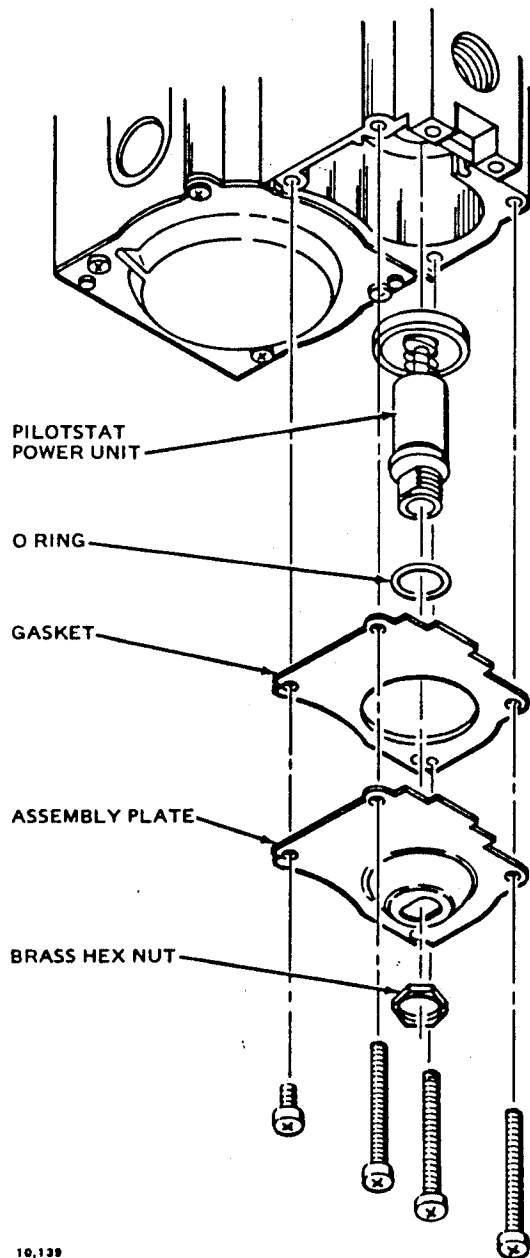

Fig. 18—Pilotstat power unit location on VR type valves.
1. Turn off the main gas supply to the appliance. The power unit plate assembly is located on the bottom of the gas control, (Fig. 18). If there is not enough working space below the gas control to remove it easily (minimum 2-1/2 in. [63.5 mm]), the gas control will have to be rotated or removed to gain access to the assembly.